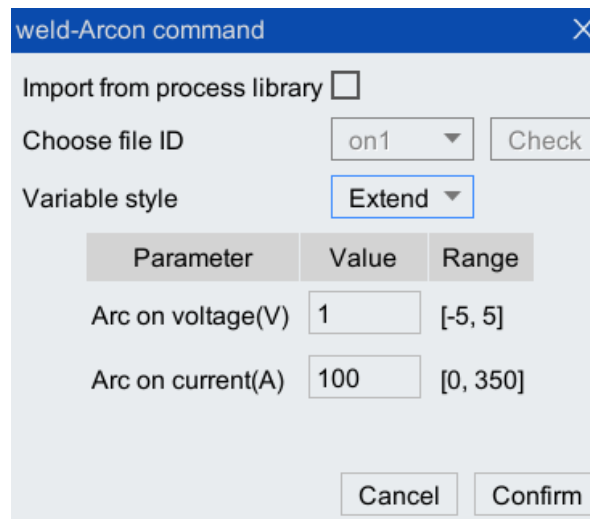

Figure 10-10 Arc on instruction configuration interface
Step4. Click [Insert cmd/Function Package/weld/Welding Command/Arcon Command], and configure [Arc on voltage] and [Arc on current] in the pop-up configuration interface (as shown in Figure 10-10). After the configuration is complete Click on <Confirm>.